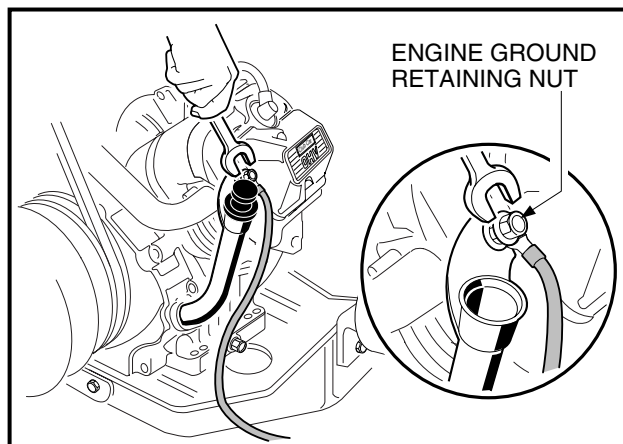

Figure 16-16 Engine Ground Wire
- 5.7. Disconnect the engine ground wire from the oil filler tube mounting bracket (**Figure 16-16, Page 16-9**).